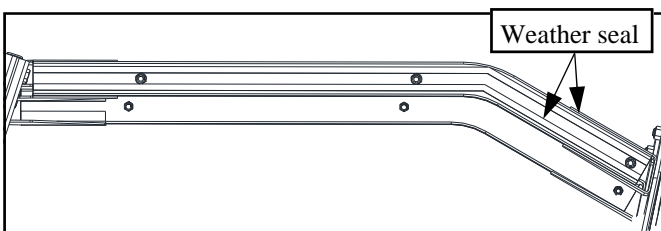

Fig. 2.1
2.1 Apply 2 strips of weather seal to ROPS tube, one above the threaded inserts and one below, per Figure 2.1. Begin by doing a dry fit to get a feel for where header comes in contact with the ROPS tube. Make sure the areas where the weather seal will be applied are clean and dry and at room temperature for best adhesion.